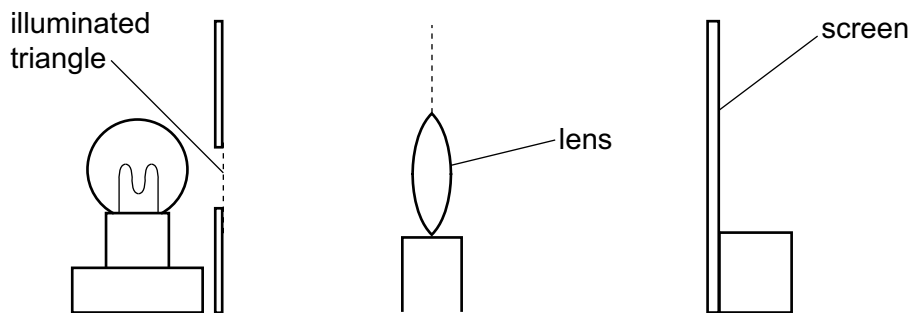

Fig. 3.3
- 3 The apparatus should be set up away from direct sunlight and provided for the candidate as shown in Fig. 3.3.
Arrange the apparatus as in Fig. 3.3.